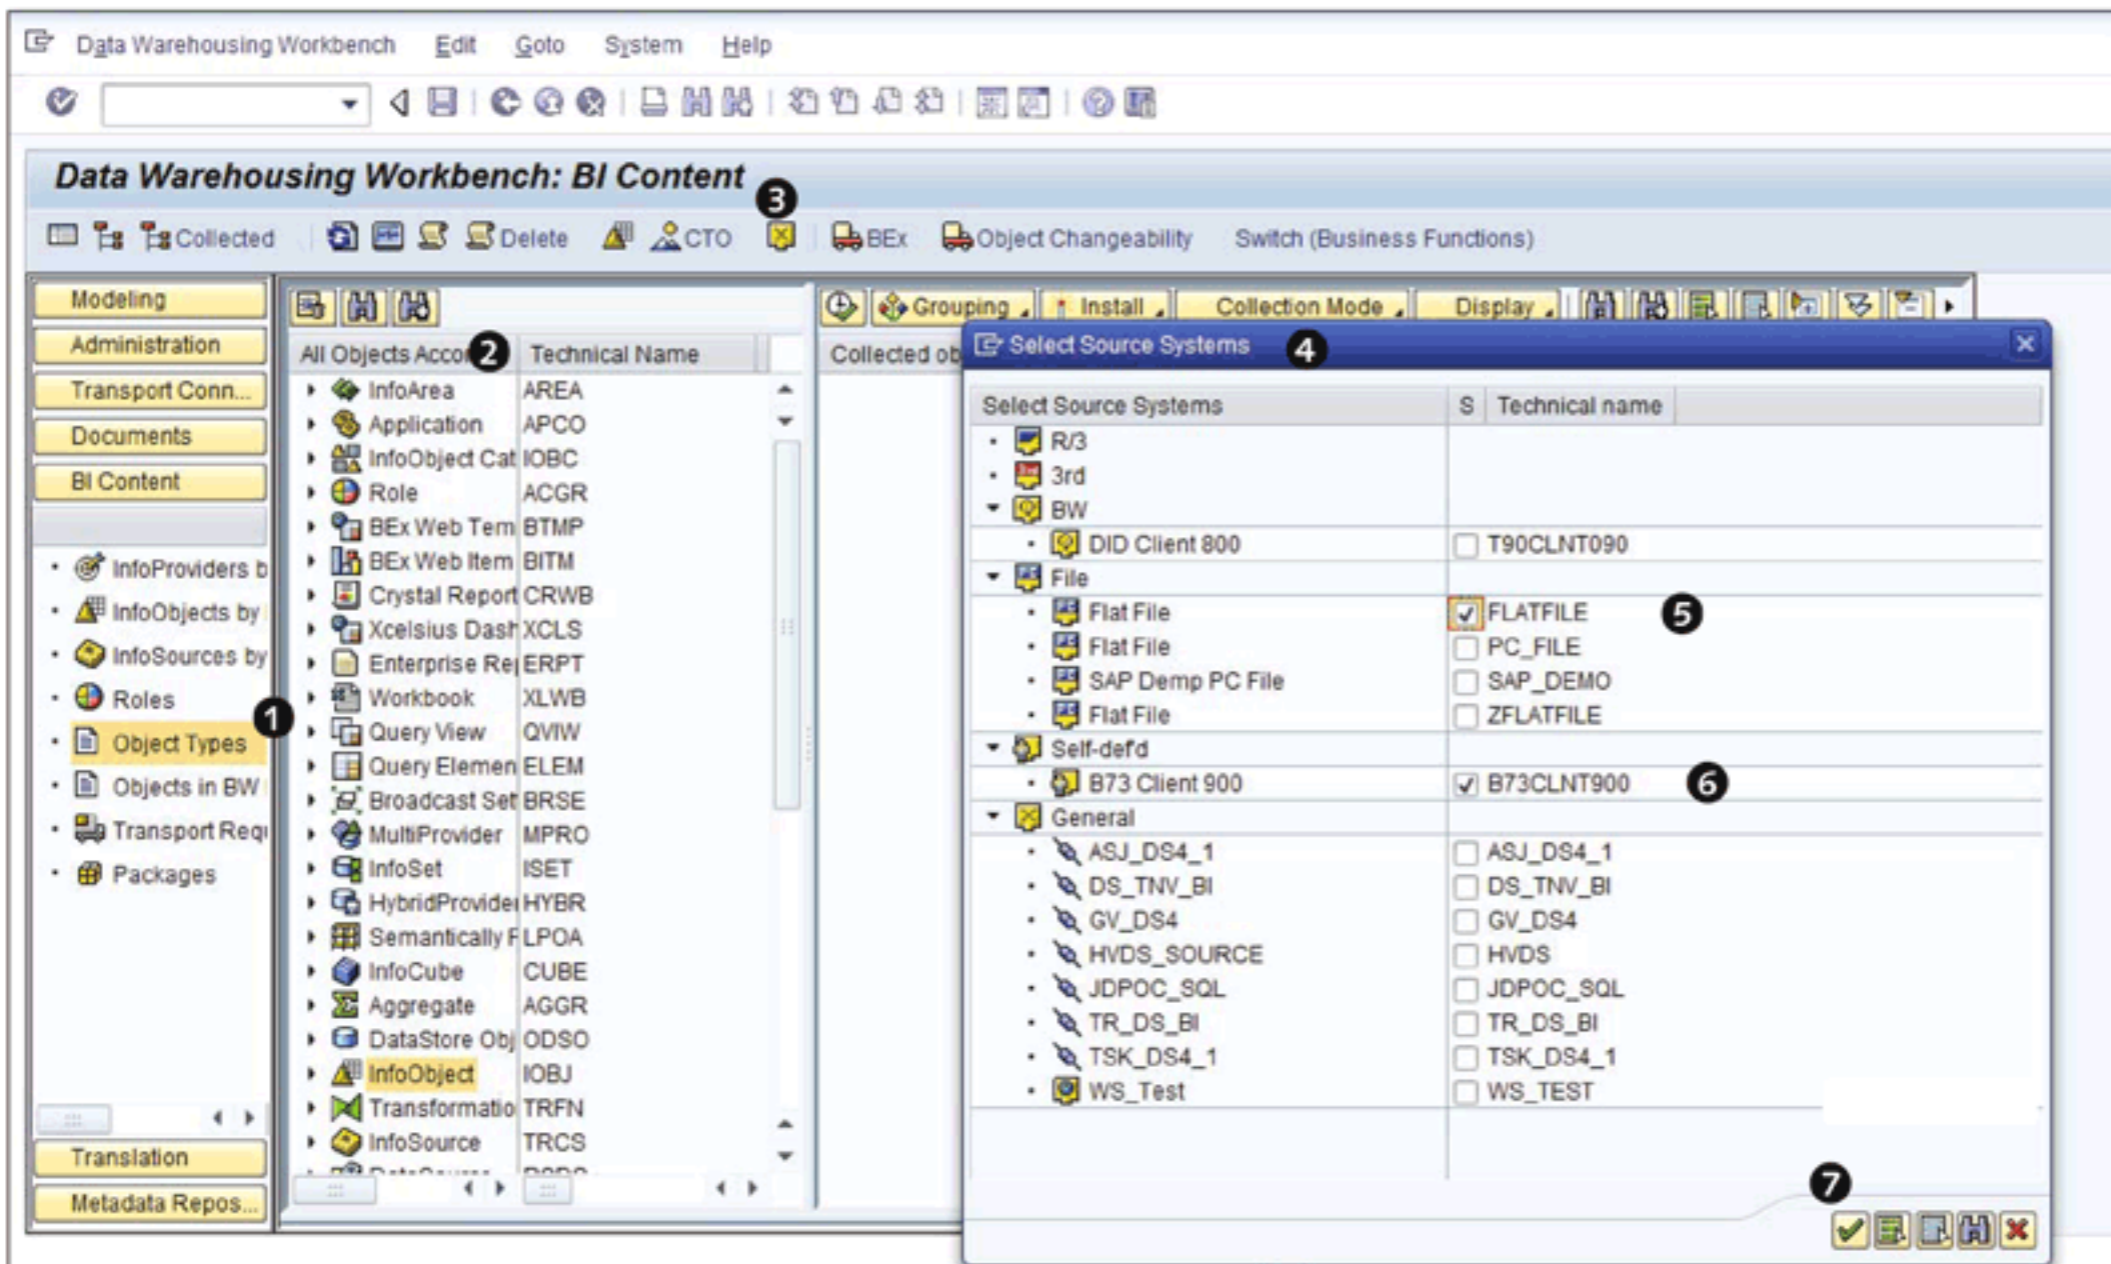

Figure 2.26 Selecting Object Type and Source System in Business Content
For demonstration purposes, we've activated a single InfoObject from Business Content, 0AD_AUTHID (Author ID). Click on OBJECT TYPE under BI CONTENT, as shown in (1) of Figure 2.26. The panel on the right side now shows different available object types (2).
To do this, click on the SOURCE SYSTEM icon () , as shown in ③ of Figure 2.26. This action results in a pop-up window where you can select from the source systems (④), which are classified into different categories (R/3, SAP NETWEAVER BW, FILE, 3RD PARTY, etc.). There are also different types of file source systems connected, as shown in ⑤; we explain the process of creating file source systems in Chapter 7.